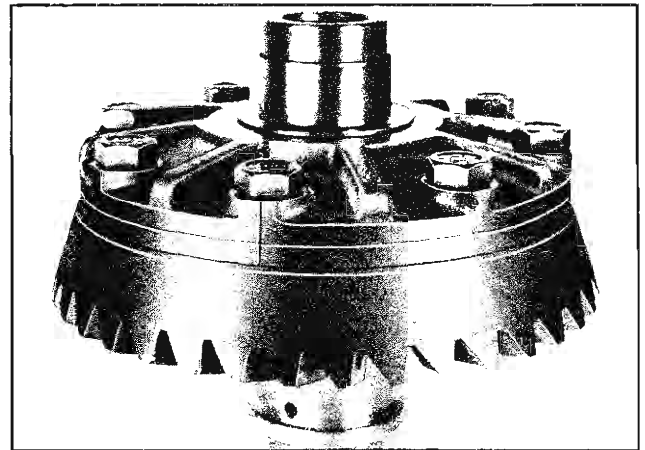

Fig. 4-31 Scribe Mark on Differential
2. A mark is scribed across parting line of differential case and cover to aid in alignment on reassembly (Fig. 4-31).